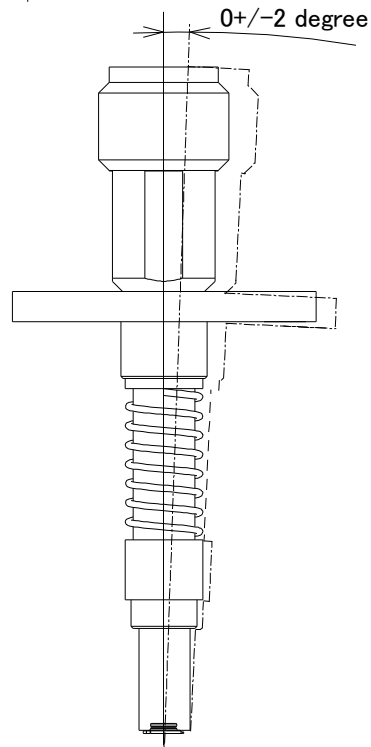

Figure.4 Probe Shape Operation Manual for Auto Measurement probe (MM121537)
- 3.3 The slant angle tolerance of probe against JSC-Male. (Figure 4)